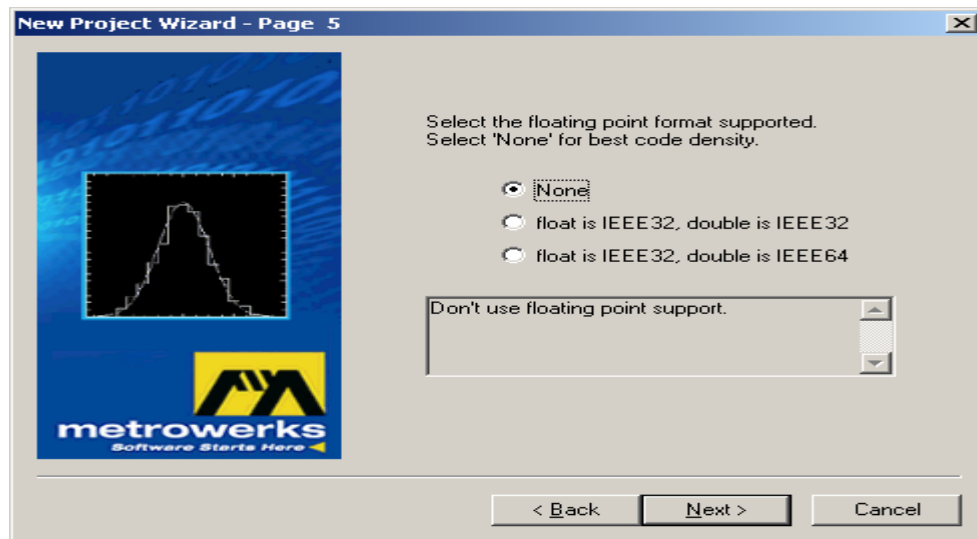

Figure 7
i. Figure 7- Select None for float point format